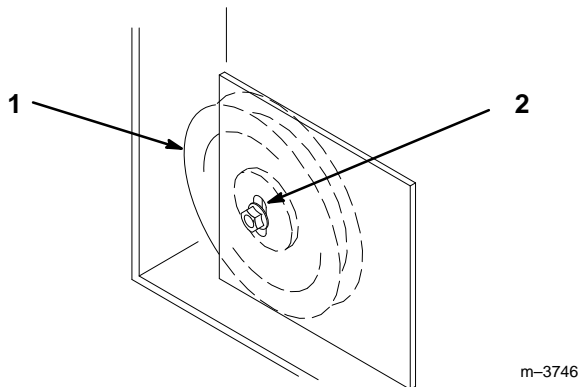

Figure 6
5. If adjustment is required, loosen the fixed idler on right support plate and move up or down in adjustment slot. To relieve belt tension lift up on spring loaded idler (Fig. 6).